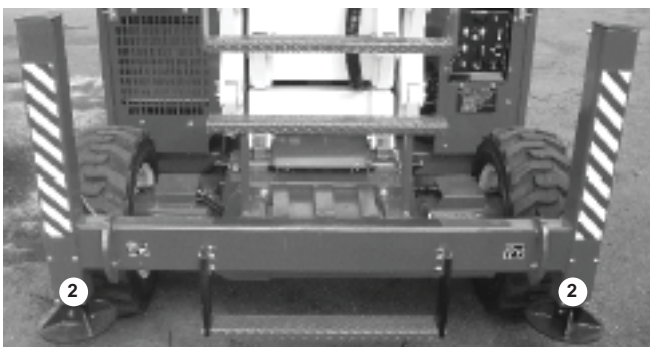

Figure 8.12
2. Pull and hold the stabiliser switches (1) backward one at a time, until all four stabiliser pads (2) contact the ground (see figure 8.12).